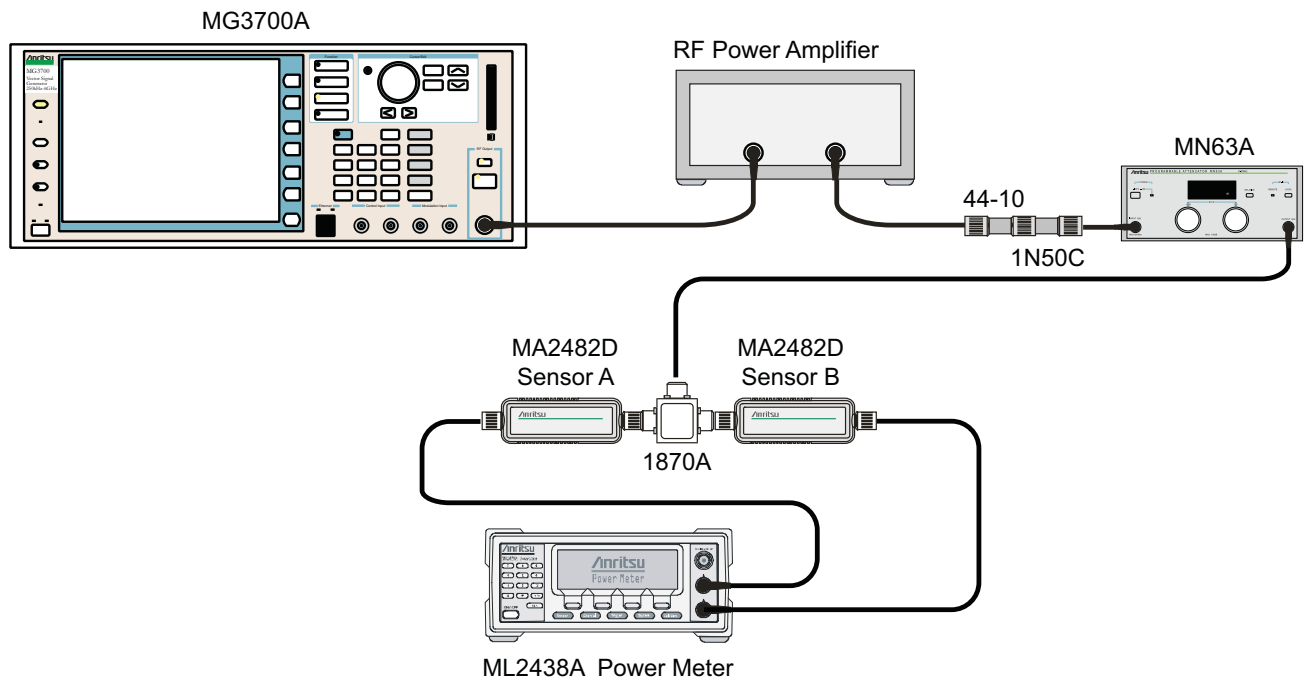

Figure 5-16. DVB-T/H SFN Analyzer Option 78, Level Accuracy Verification – Two Sensors
2. Connect the MG3700A Signal Generator, Power Amplifier with N(f) to BNC(m) Adapters, RF Limiter, MN63A Programmable Attenuator, Power Divider, Power Meter, and Power Sensors as shown in Figure 5-16, “DVB-T/H SFN Analyzer Option 78, Level Accuracy Verification – Two Sensors”.
50. Turn off the power amplifier, disconnect the power splitter from the MT8222A, reconnect Sensor A to the power splitter as shown in Figure 5-16, “DVB-T/H SFN Analyzer Option 78, Level Accuracy Verification – Two Sensors”.